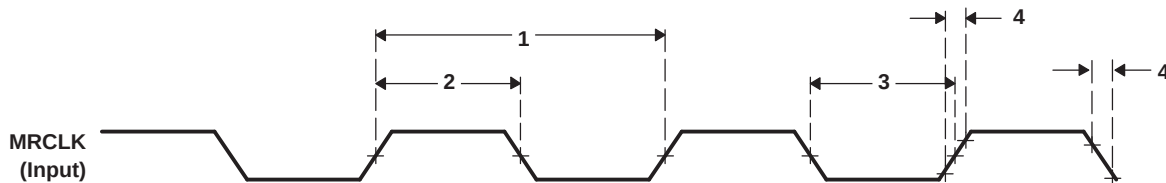

**Figure 7-50. MRCLK Timing (EMAC – Receive) [MII and GMII Operation]**
**Table 7-72. Timing Requirements for MRCLK - MII and GMII Operation (see Figure 7-50)**